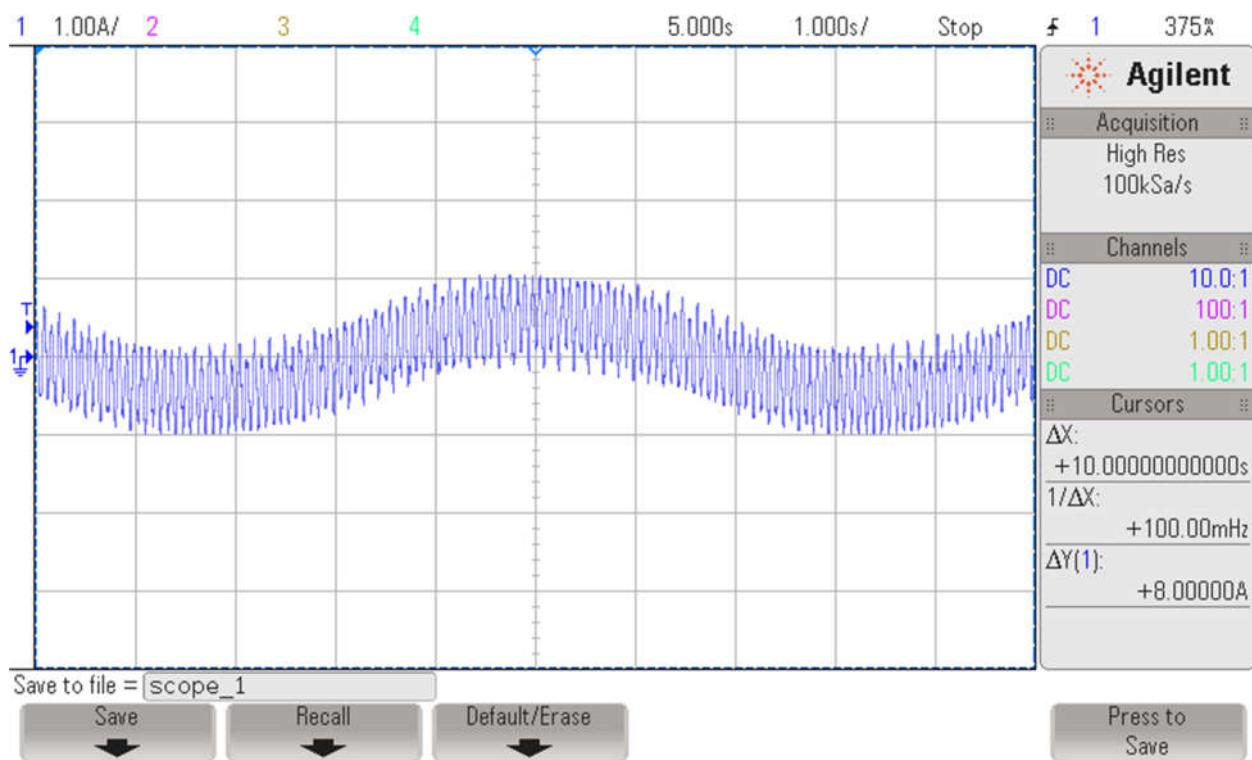

Figure 67: Phase current while running Rs Online with a command of 1.0 A
7. Now change the maximum amplitude used for Rs Online by changing the following variable to 1.0 (A), the current will start looking as shown in **Figure 67**.